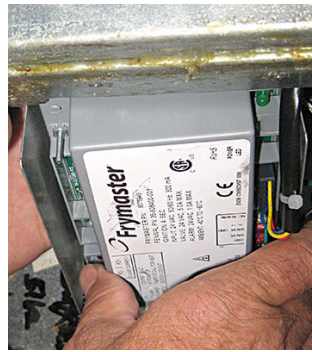

Figure 17
20. Ensure the nuts on the top of the module assembly housing are loose. Carefully position the module housing studs with nuts, through the key hole slots in the bottom of the control box (see Figures 17 and 18).